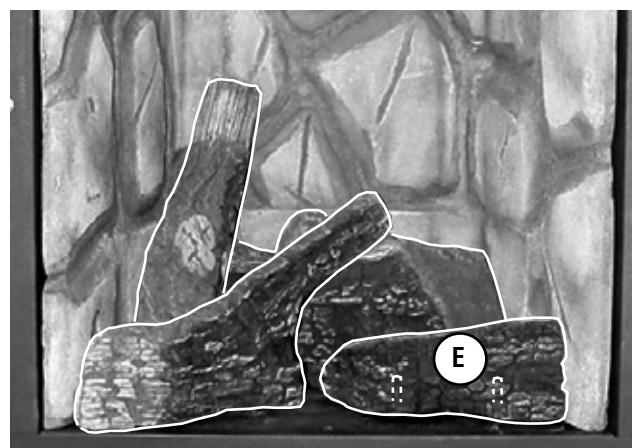

Figure 47 - Install Right Front Log (E)
4. **Place the right front log (E) as shown in Figure 47.** Position the hole on the bottom of log E over pins #4 and #5.